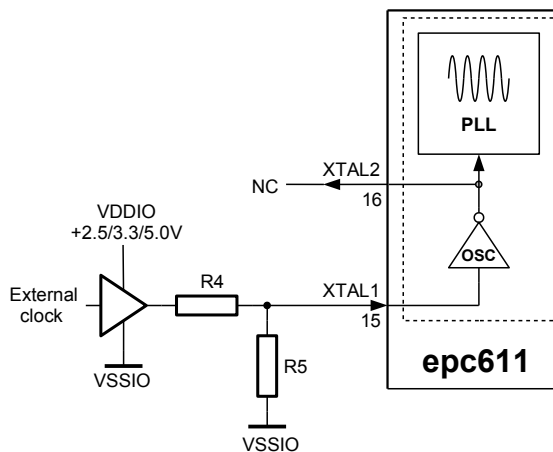

Figure 14: Resistor divider to adjust clock levels to  $V_{DDPLL}$
- Instead of a crystal, an external 4 MHz clock source can be connected to XTAL1. XTAL2 output pin left unconnected. The input clock signal level must match  $V_{DDPLL}$  supply level (see Table 1). If the external clock source voltage domain is above 1.8V, a resistor divider adapts it e.g. in Figure 14 and Table 12.